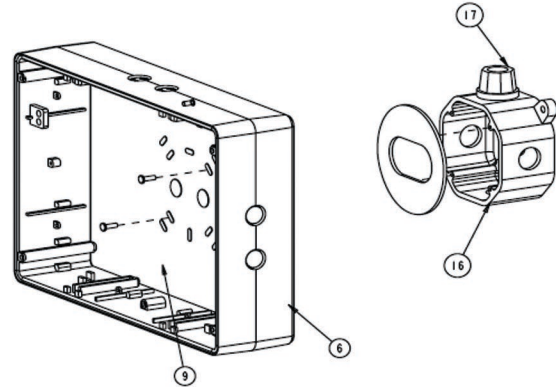

FIG 3.
- b. Remove the backplate(9) from the packaging. Determine the proper knockouts to remove for mounting to the junction box (see fig.3).